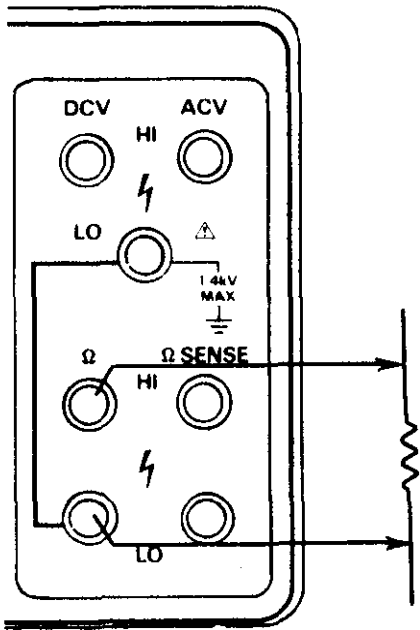

Figure 4-4. Resistance Measurements
4. Connect input between Ω and LO (see Figure 4-4).